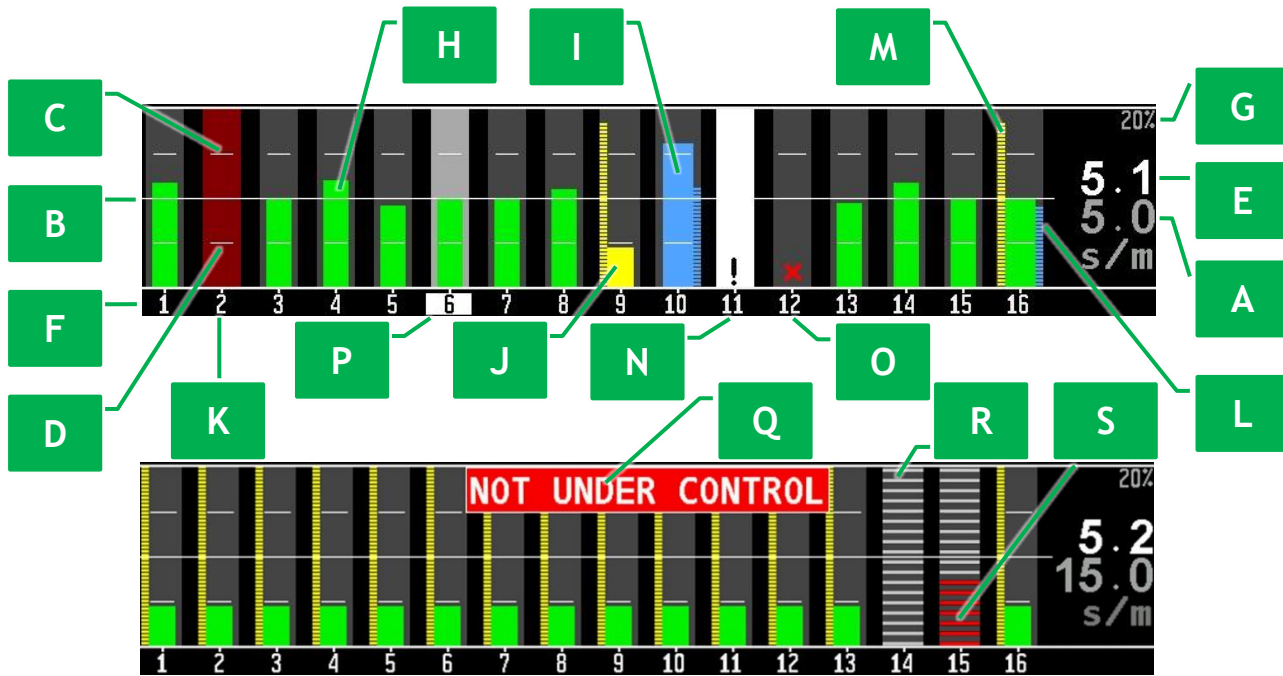

Figure 25 Diagram of seed sensors in the “Precise” control mode
The section diagram in the “precise” seeding control mode is intended for visual display of the sowing process with the display of doubles and skips. In the “precise” control mode, the diagram consists of the following elements (see Figure 25):
[G] Shows the set value of the  "Scale S&D, %" parameter (the scale of a skips and doubles), to which the top border of the diagram corresponds. This value is set in the settings menu  "Diagram settings" (see item 11.7.6.3 on the page 103). The height of the column of skips and doubles is proportional to their current level at the given scale (see Figure 25, p.[M] p.[L]), but if the percentage of doubles or skips in a particular section is equal to or greater than the specified value, then this column of doubles or skips will be displayed for the entire height of the diagram.
- in green color (see Figure 25, p.[H]) when the actual rate of application of the product is within the permissible deviation from the target rate (normal state);
- in blue color (see Figure 25, p.[I]) when the actual rate of application of the product is greater than the maximum permissible deviation from the target rate (alarm state);
- in yellow (see Figure 25, p.[J]) when the actual rate of application of the product is less than the minimum permissible deviation from the target rate (alarm state).
[L] The blue dashed column of the diagram shows the level of doubles by section (in the figure - by section number sixteen). The height of the column is proportional to the current level of the doubles at the given scale (see Figure 25, p.[G]).
[M] The yellow dashed column of the diagram shows the level of skips by section (in the figure - by section number sixteen). The height of the column is proportional to the current skips level in the given scale (see Figure 25, p.[G]).
2. There are no doubles and skips control for seed sensors or dry fertilizer sensors diagrams. There is also no  "Scale S&D, %" parameter display associated with them (see Figure 25, p.[G]).